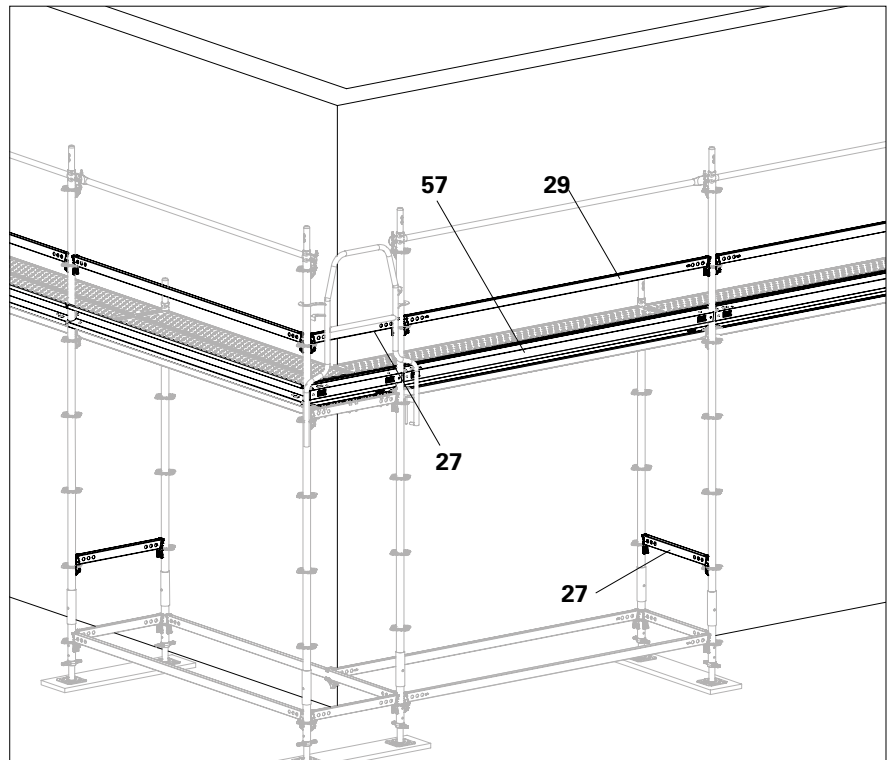

Fig. B6.07
- The external corner is now complete. (Fig. B6.07)